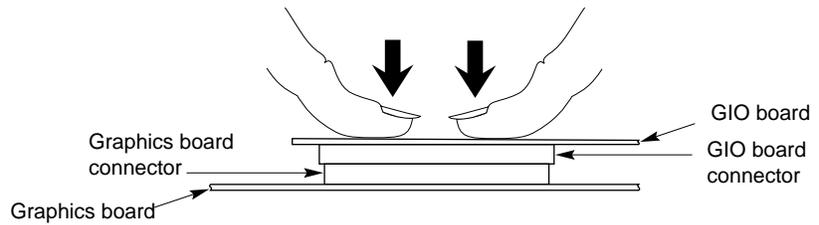

Figure 1-27 Seating the Connectors
2. Place your fingers or thumbs on the board above where the connectors are located, and press firmly until the two connectors fit snugly. The connectors must be touching along the entire shared surface. See Figure 1-27. If the board is not seated all the way, the screws will not tighten correctly.